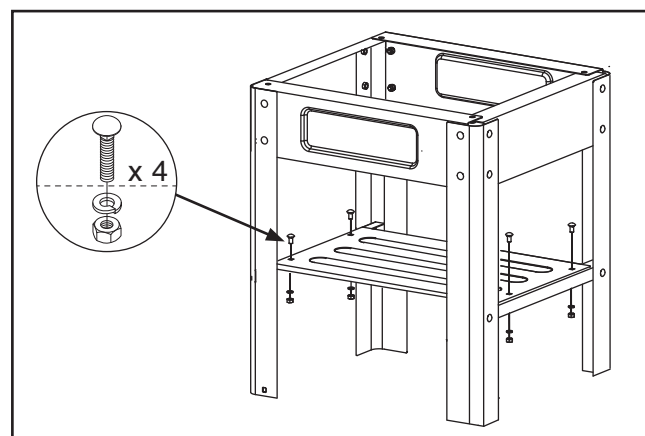

Figure 5. Installing shelf.
4. Attach shelf to support brackets with (4) M8-1.25 x 20 carriage bolts, (4) 8mm lock washers, and (4) M8-1.25 hex nuts (see **Figure 5**).